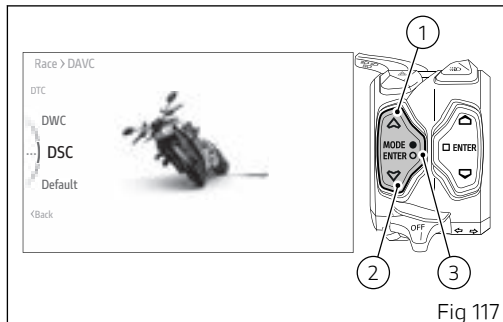

Fig 117
- Select the "Riding Mode" item and press ENTER (3).
- Select the Riding Mode you wish to customise and press ENTER (3).
- Select the "DAVC" item and press ENTER (3).
- Select the "DSC" (Fig 117) item and press ENTER (3).